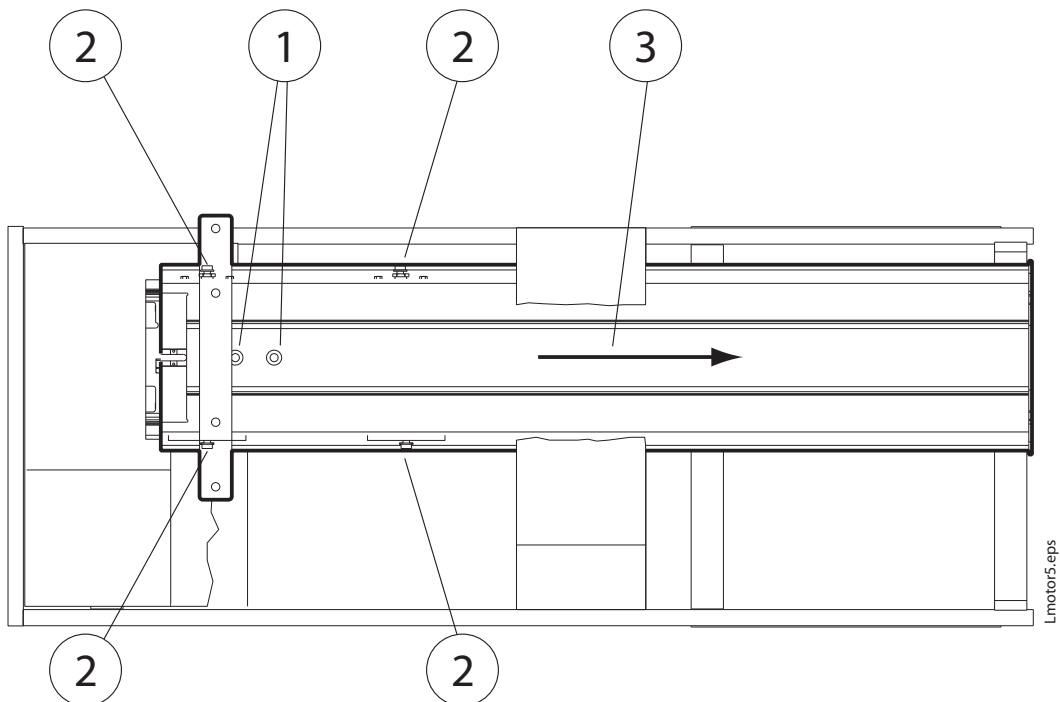

Figure 35
- 21) To be able to remove the stationary column from inside the package, cut the bottom of the styrofoam pieces slightly. Unscrew the attachment screws of the lift nut (Fig. 35, 1).
- 22) Unscrew the attachment screws of the guide assemblies (Fig. 35, 2). Note that it is easier to assemble the unit if the guide assemblies are in the same position as they were. Pull the stationary column away from the telescopic unit (Fig. 35, 3).